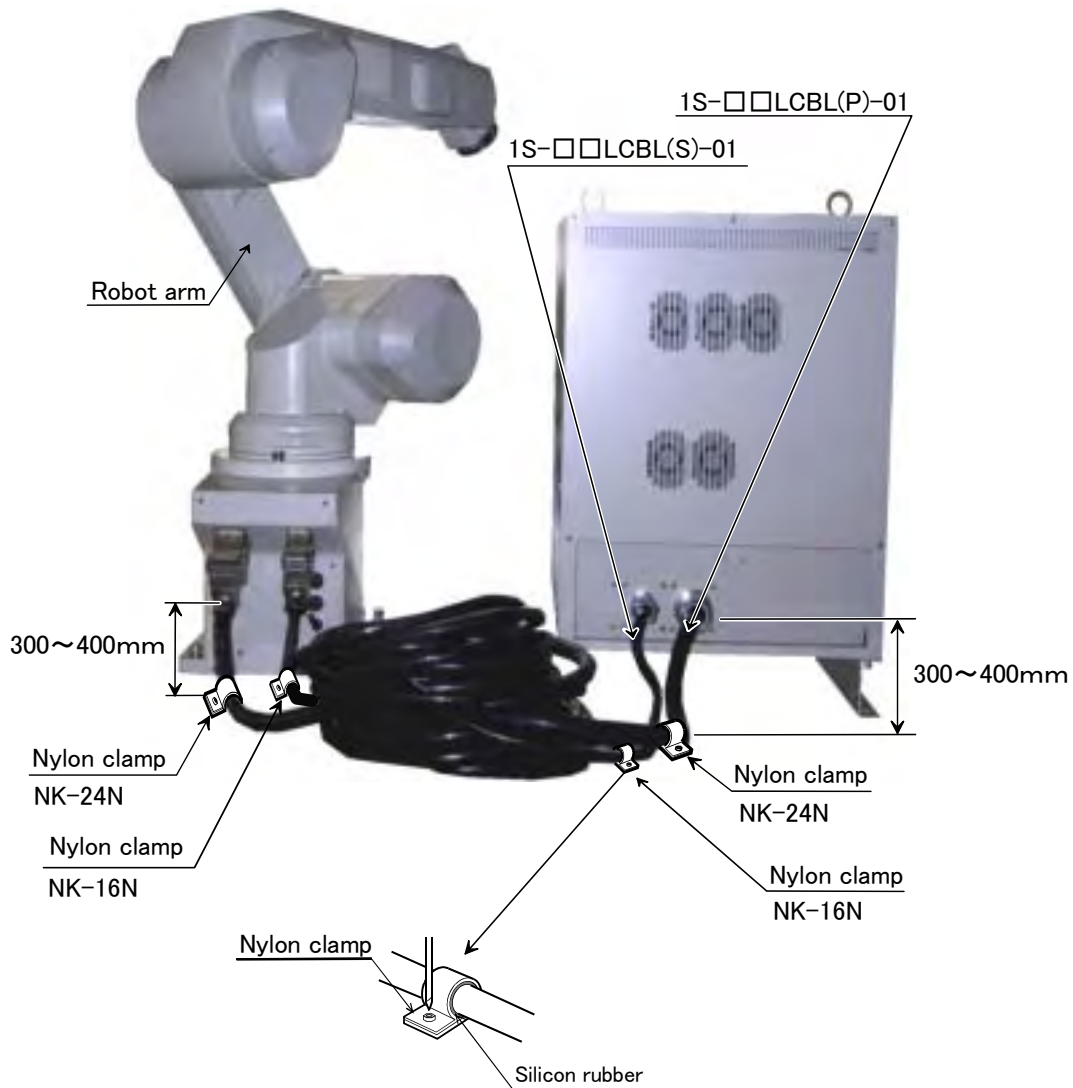

Fig.2-12 : Fixing the flexible cable
- (1) Connect the connector to the robot arm .
- (2) Wind the silicon rubber around the cable at a position 300 to 400 mm from the robot arm and controller as shown in Fig. 2-12, and fix with the nylon clamp to protect the cable from external stress.